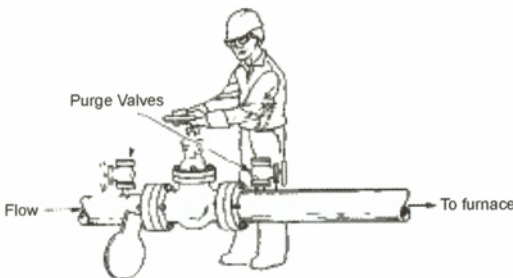

Figure 46 Open the main gas valve to put gas to the gas control valve blocks just before lighting the main burners.
4. Deblind the main fuel gas supply to the heater and open the main block valve in the gas line *only* when the pilots are all lit (Figure 46) (see section 6.1 on Pilots). This will put full line pressure against the control valve blocks and bypass, if any. Pressurize the main gas system to 2.5 bar and test the blind flange joint. Depressurize to 0.3 bar.